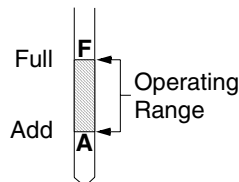
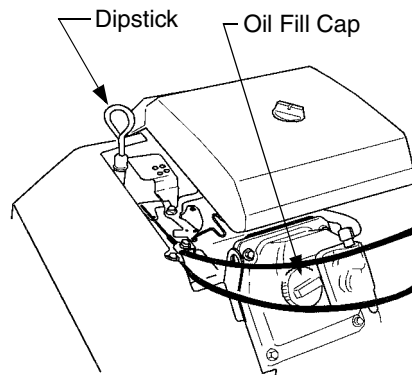
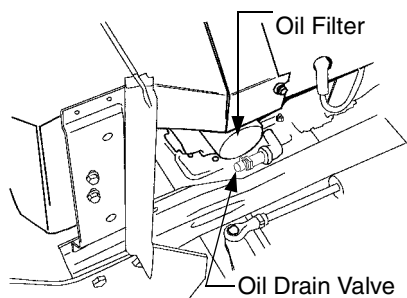

Figure 22
Figure 23
Figure 25
Before checking the oil level, clean the area around the oil level dipstick to prevent debris from entering the crankcase. See Figure 23. Always keep the oil level between the “FULL” and the “ADD” marks on the dipstick. See Figure 22.
- Clean the area around the oil filler cap to prevent debris from entering the crankcase. See Figure 23.
- Remove the oil filler cap from the left valve cover and SLOWLY pour in oil. Fill the crankcase until the oil level reaches the “FULL” mark on the dipstick. See Figure 22.
- Clean around the base of the oil filter, the oil filler cap, and the dipstick tube to prevent debris from entering the crankcase. See Figure 23 and Figure 25.